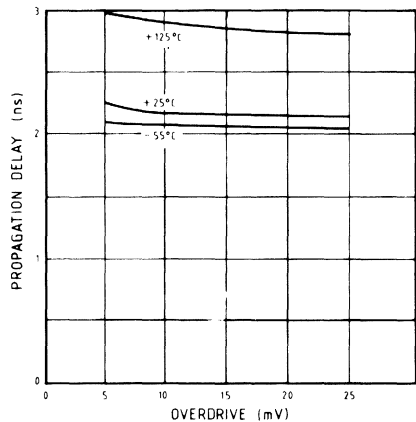

Fig.6 Propagation delay, input to output as a function of overdrive
- 3 $\sim 100\text{mV}$ pulse with $\sim 10\text{mV}$ overdrive. See Figs 6 to 8